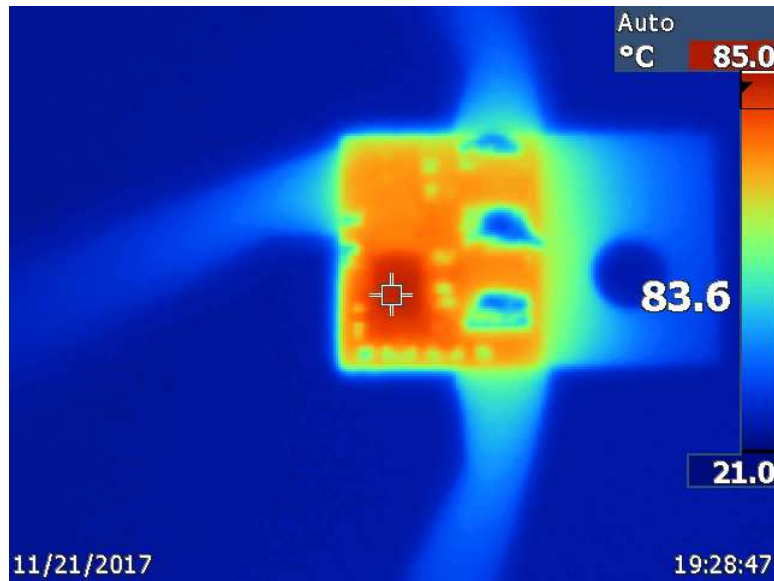

Figure 17. Thermal Image at 24 V_{IN}, 5V_{OUT}, 600 mA I_{OUT}
The infrared (IR) thermal image in Figure 17 was taken at the steady state with 24 V_{IN} and the LMR36006 output at a load of 600 mA (no airflow). The ambient temperature is approximately 22°C. The maximum IC temperature is 85°C.